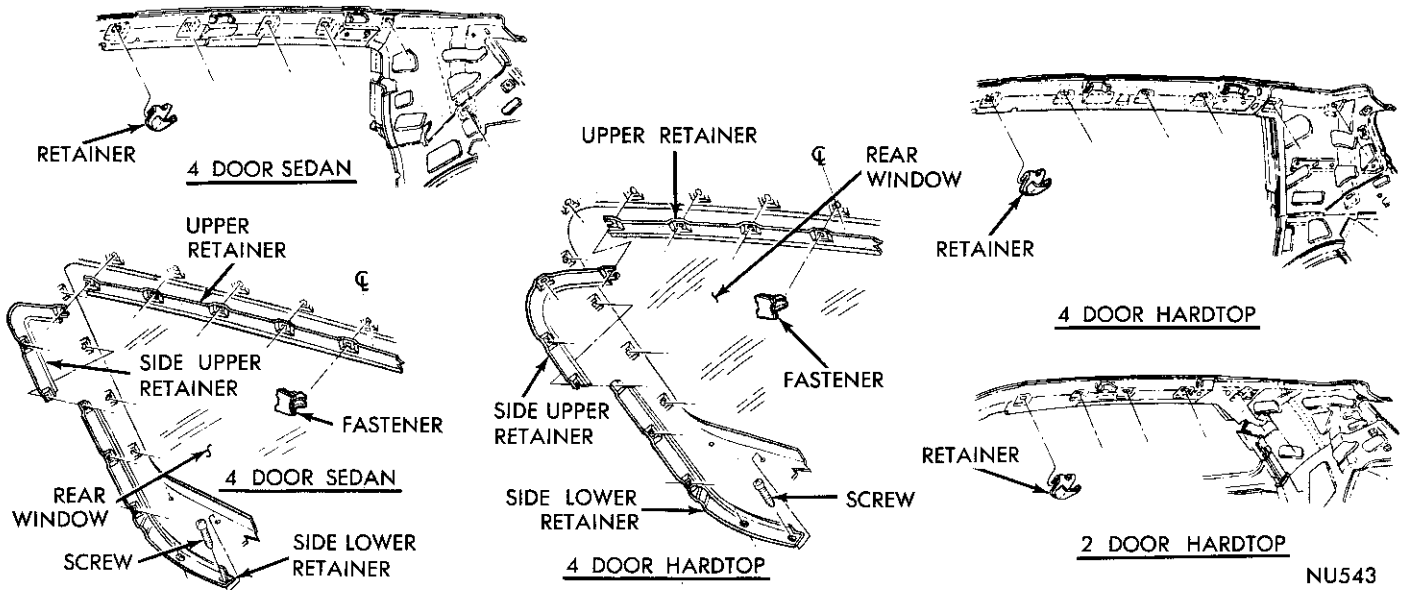

Fig. 3—Listing Wire Retainers
- (6) Remove listing wires from side rail retainers (Fig. 3) and support wire from rear listing wire.
- (7) Remove all foreign material and cement from windshield header area and rear window opening areas.
- (8) Remove listing wires from headlining and insert in comparable listing of new liner.